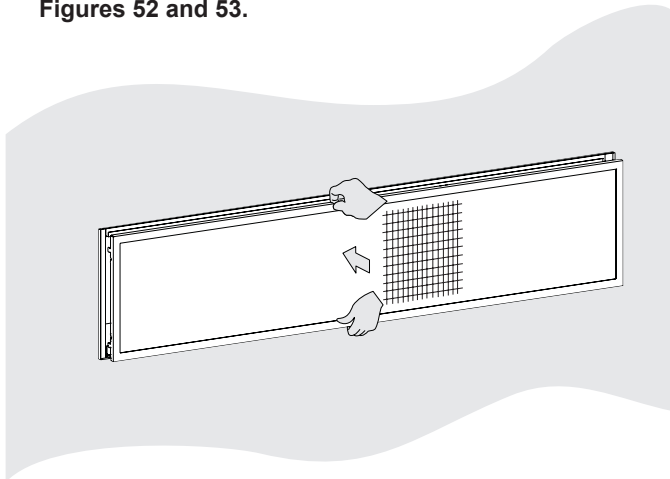

Figure 52
9. Replace the Barrier Screen onto the fireplace by lining up the tabs with the slots in the firebox. Push the barrier screen toward the unit and lower it slightly to lock in place. **See Figures 52 and 53.**